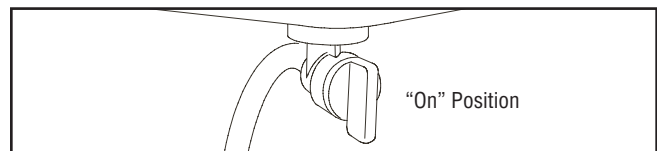

Figure 29 — Detergent Shut-Off Valve
7. If equipped with a cleaning tank, rotate detergent shut-off valve on cleaning tank to “On” position (see Figure 29).